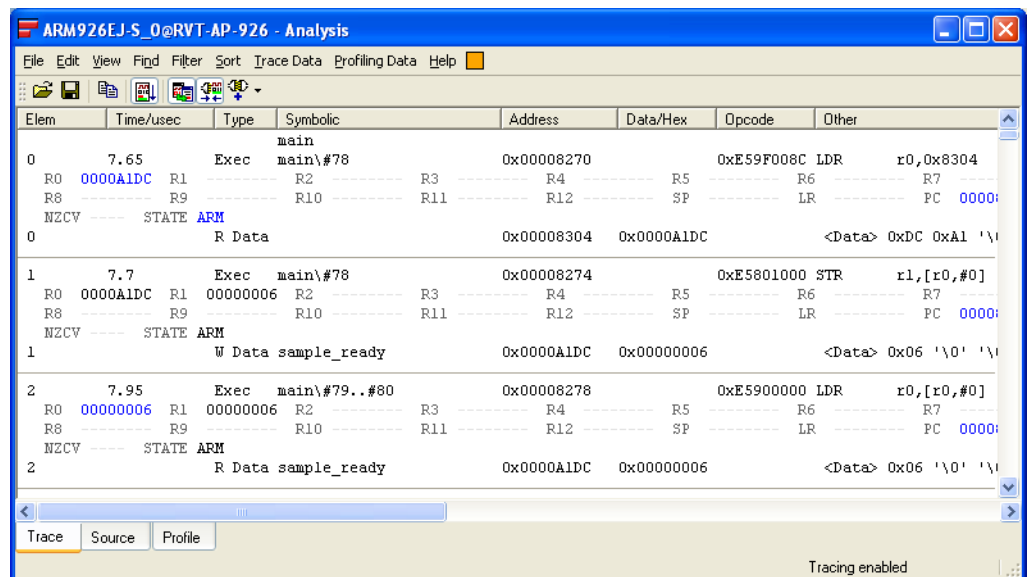

Figure 10-52 Inferred registers in the Trace tab
2. Select **Inferred Registers** from the **Trace Data** menu. The inferred registers and instruction boundaries are displayed. Figure 10-52 shows an example